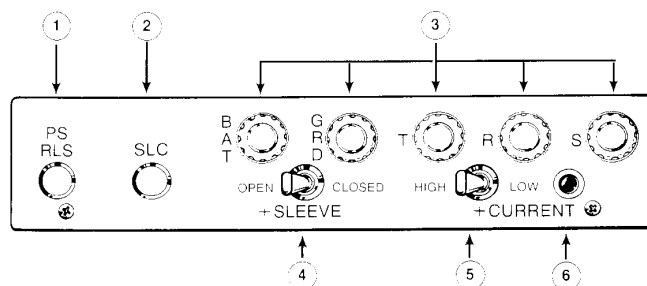

Figure 2A. 312A L3 Adapter Top Panel
2.17 The top panel of the 312A-L3 Adapter is shown in figure 2A. Call outs in the Figure correspond with call outs in the following text: